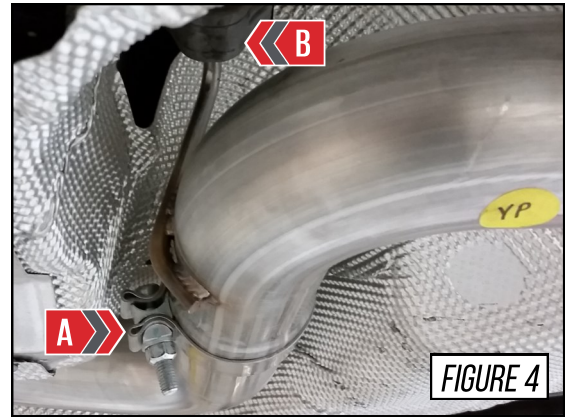

FIGURE 4
Install the over-axle section (part **YP**) onto the front section outlet using one (1) of the included 3.0" Accu-Seal clamps. Orient the clamp to the same side as the hanger, as shown by **Arrow A** in **Figure 4**. During normal usage, the exhaust will expand toward the rear of the car, this orientation prevents any contact with the shielding.
The exhaust hanger bushing should be slightly forward when the section is installed correctly, as shown by **Arrow B** in **Figure 4**.